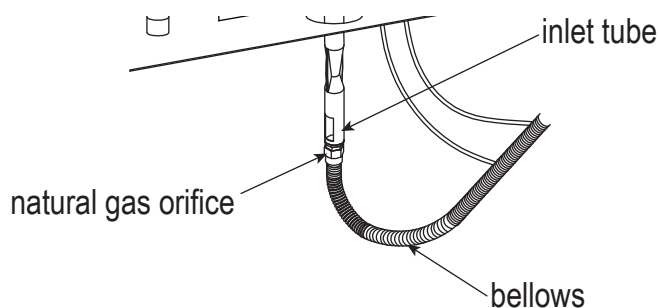

Figure 14
3. Replace the propane orifice with the natural gas orifice and screw the natural gas orifice to the bellows tightly. Then connect and tighten the natural gas orifice to the inlet tube (see Figure 14). The Natural gas orifice (4.18 mm diameter size ) is painted with a black mark.